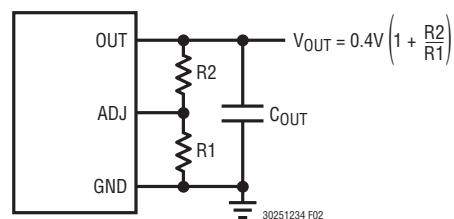

Figure 2. Programming the LTC3025-1
**ADJ (Pin 5) LTC3025-1:** Adjust Input. This is the input to the error amplifier. The ADJ pin reference voltage is  $0.4\text{V}$  referenced to ground. The output voltage range is  $0.4\text{V}$  to  $3.6\text{V}$  and is typically set by connecting ADJ to a resistor divider from OUT to GND. See Figure 2.
The output voltage is set by the ratio of two external resistors as shown in Figure 2. The device servos the output to maintain the ADJ pin voltage at 0.4V (referenced to ground). Thus, the current in R1 is equal to  $0.4\text{V}/R1$ . For good transient response, stability, and accuracy, the current
in R1 should be at least  $8\mu\text{A}$ , thus the value of R1 should be no greater than  $50\text{k}$ . The current in R2 is the current in R1 plus the ADJ pin bias current. Since the ADJ pin bias current is typically  $<10\text{nA}$ , it can be ignored in the output voltage calculation. The output voltage can be calculated using the formula in Figure 2. Note that in shutdown the output is turned off and the divider current will be zero once  $C_{\text{OUT}}$  is discharged.